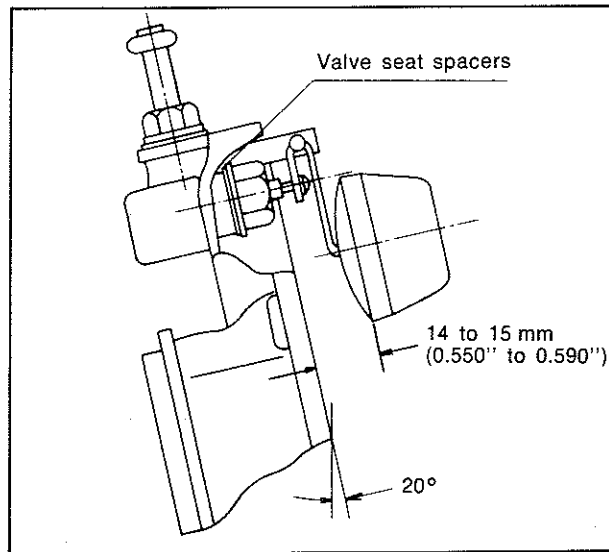

Fig. 26—Float level adjustment
(1) Remove float chamber cover.
(2) Hold the float chamber cover at the angle shown in Fig. 26, so that the weight of the float closes the needle and seat assembly.
(3) Measure the gap between the float and float chamber cover. Refer Fig. 26.
(4) If the gap is not within the specified dimensions, 14-15 mm (0.55"-0.59") it must be adjusted by increasing or decreasing the adjusting shims between the needle and seat assembly and float chamber cover.